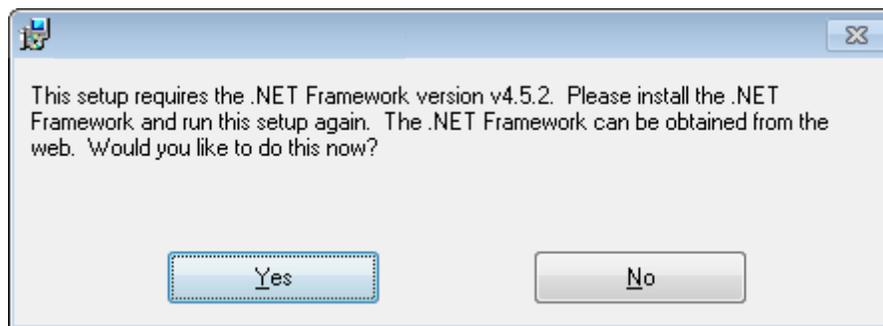
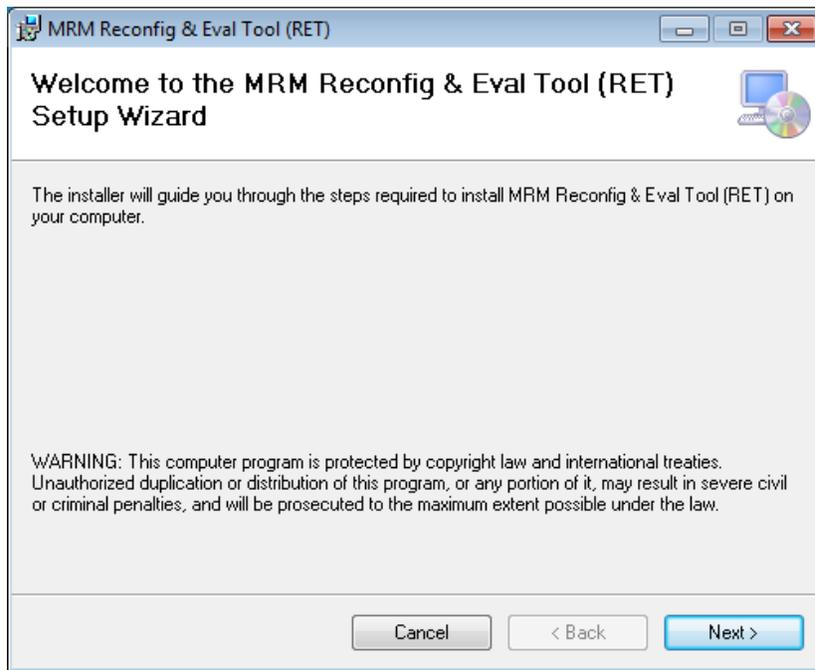
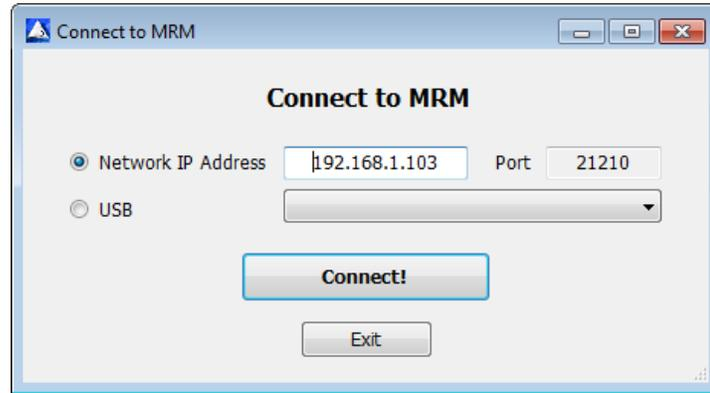

Fig. 1A: Message warning that you will need to download a newer version of .NET Framework
Fig. 1B: Initial installation screen for the MRM RET software
Fig. 7: MRM RET connect screen prior to USB hookup
If a screen similar to the one shown in **Figure 1A** appears, then you will need to download a newer version of .NET Framework from the Microsoft website. See **Appendix A** for details. If not, then you should see the box shown in **Figure 1B**.
3. On screen, you should see the box shown in **Figure 1B**.
1. Double click on the MRM RET icon. The screen shown below in **Figure 7** will appear. Depending on the version of your Windows OS, the screen shown in **Figure 1A** may appear instead. If it does please follow the instructions in **Appendix A**.